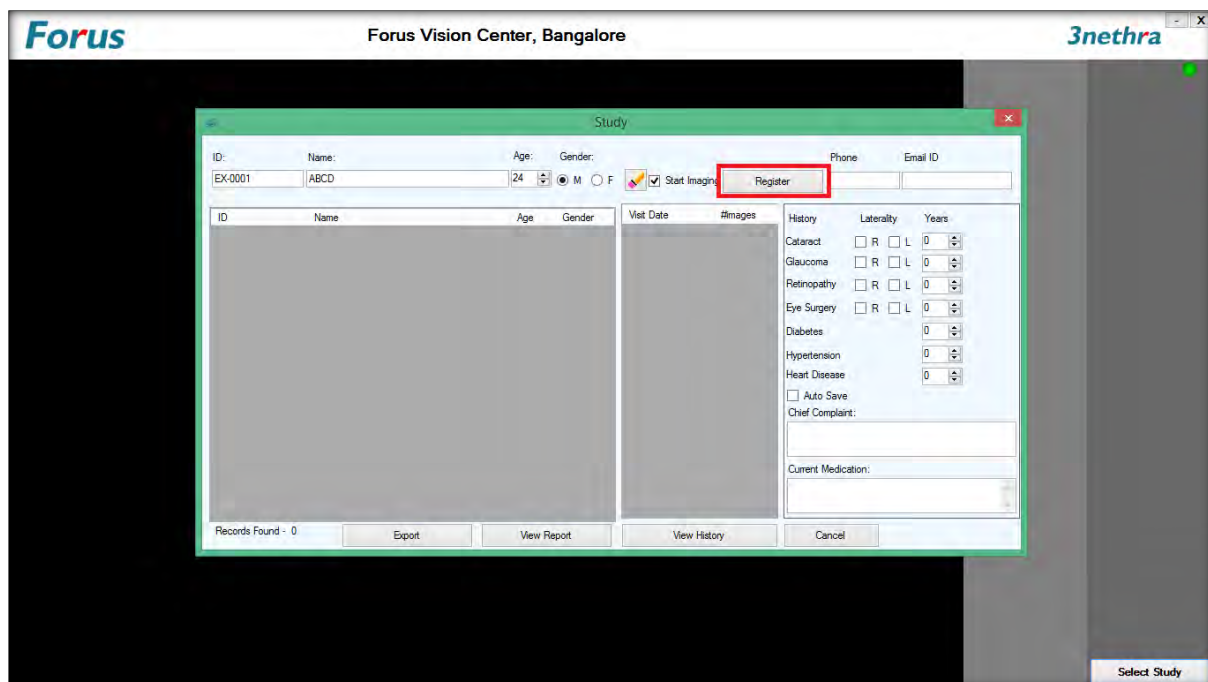

Figure 13 3nethra registration window
The registration of the Examinee can be performed on the processing device (laptop/desktop). The registration screen as in Figure 13 appears after the device is turned on and is connected to the processing device. Registration can be performed in two options:
- Go to the main window (Study Screen) Registration Screen Figure 13.